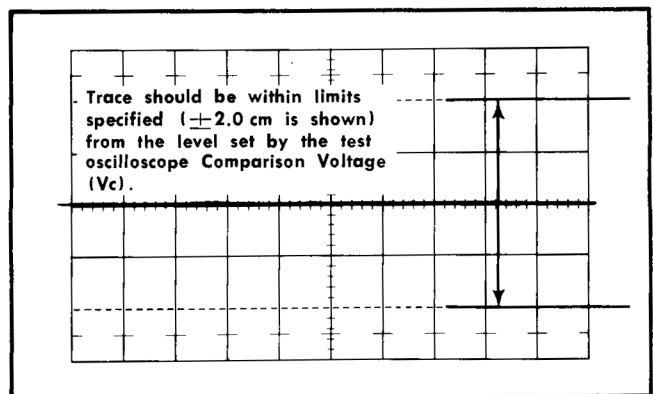

Fig. 5-1. Typical test oscilloscope display when checking Calibrator Amplitude.
- Check—Test oscilloscope trace within ± 2.0 cm of center horizontal graticule line (see Fig. 5-1).